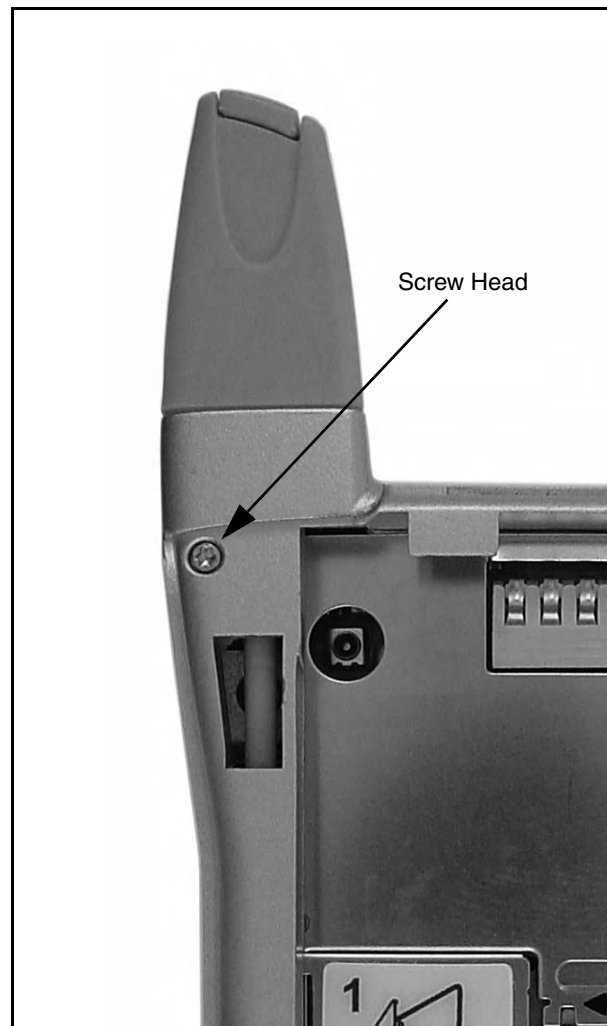

Figure 7-3.
1. Remove battery cover. Locate T4 screw head at base of antenna (see Figure 7-3).